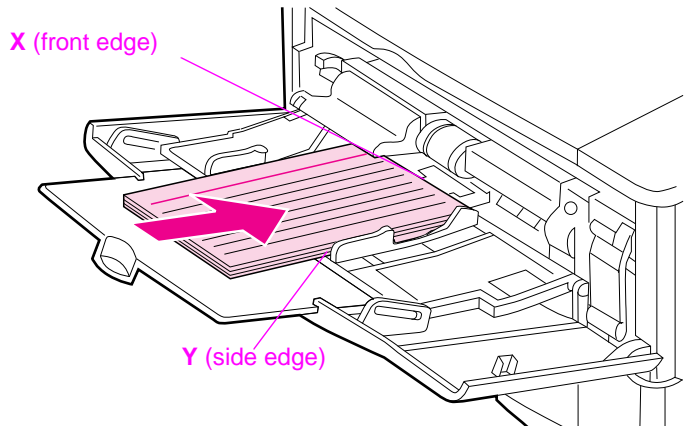

Figure 15 Printing Custom-Size Paper
- 3 From the Printing Menu, set the X dimension (the front edge of the paper) as shown in Figure 15. X can be 3 to 8.5 inches (76 to 216 mm).
- 4 Set the Y dimension (the side edge of the paper) as shown in Figure 15. Y can be 5 to 14 inches (127 to 356 mm).